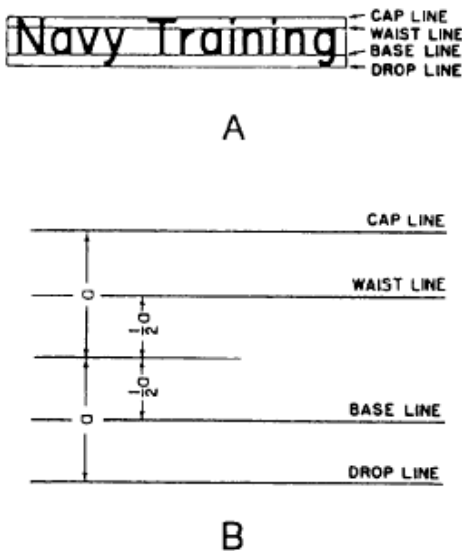

Fig. 4.8 Laying off guidelines
Fig.4.8 (A) shows the use of light pencil lines called guidelines. Guidelines ensure consistency in the size of the letter characters. If your lettering consists of capitals, draw only the cap line and base line. If lowercase letters are included as well, draw the waist line and drop line.
The waist line indicates the upper limit of the lowercase letters. The ascender is the part of the lowercase letter that extends above the body of the letter; for example, the dot portion of the character *i* in Fig.4.8 (A). All ascenders are as high as the caps.
The drop line indicates the lower limit of the lowercase letters. The descender is the part of the lowercase letter that extends below the body of the letter, an example being the tail of the character *g* in Fig.4.8. (A). The vertical distance from the drop line to the base line is the same as the vertical distance from the waist line to the cap line. It is about one third of the vertical distance between the base line and the cap line, or about one half of the vertical distance between the base line and the waist line.
Fig. 4.8. (B), shows an easy way to lay out guidelines for caps and lowercase. Let the height of a capital be  $1\frac{1}{2}$  times the distance "a". Set a compass or dividers to distance "a" and lay off distance "a" above and below the midline selected for the guidelines, the method locates the cap line and the drop line. Then set the compass or dividers to one half of "a" and lay off this distance above and below the midline. This method locates the waist line and the base line.